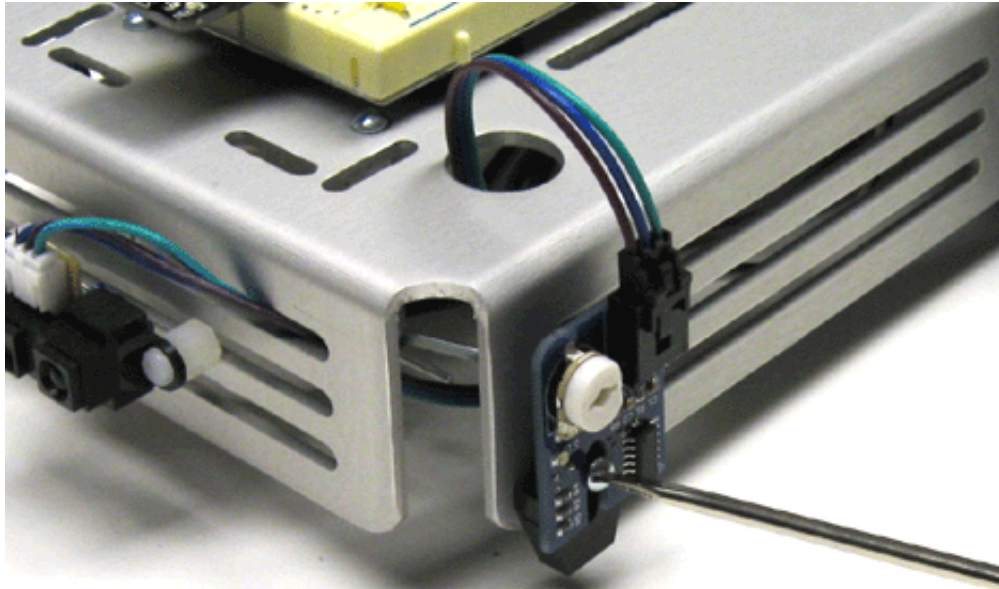

Figure 3. Securing the infrared reflectance sensor.
- 1. Attach one reflectance sensor on the left side of the chassis, using a ½" 4-40 machine screws and nuts. Mount the sensor on the lowest slot, as shown in Figure 3.**